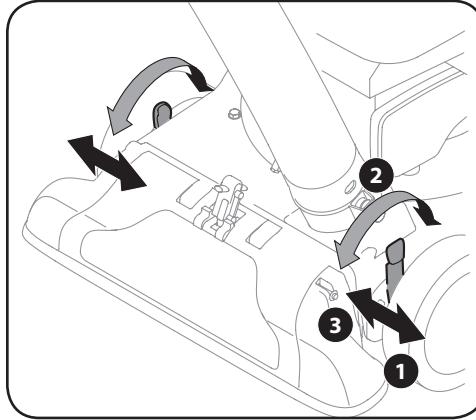

Figure 3-7
7. Depress nozzle height adjustment lever towards wheel. See Figure 3-7.
2. Release lever towards deck. See Figure 3-7.